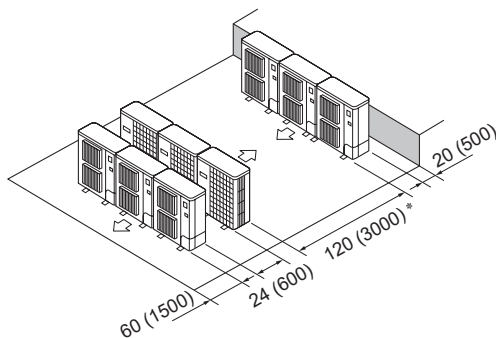

Fig. 2-16
- ⑥ Multiple parallel unit arrangement (Fig. 2-16)